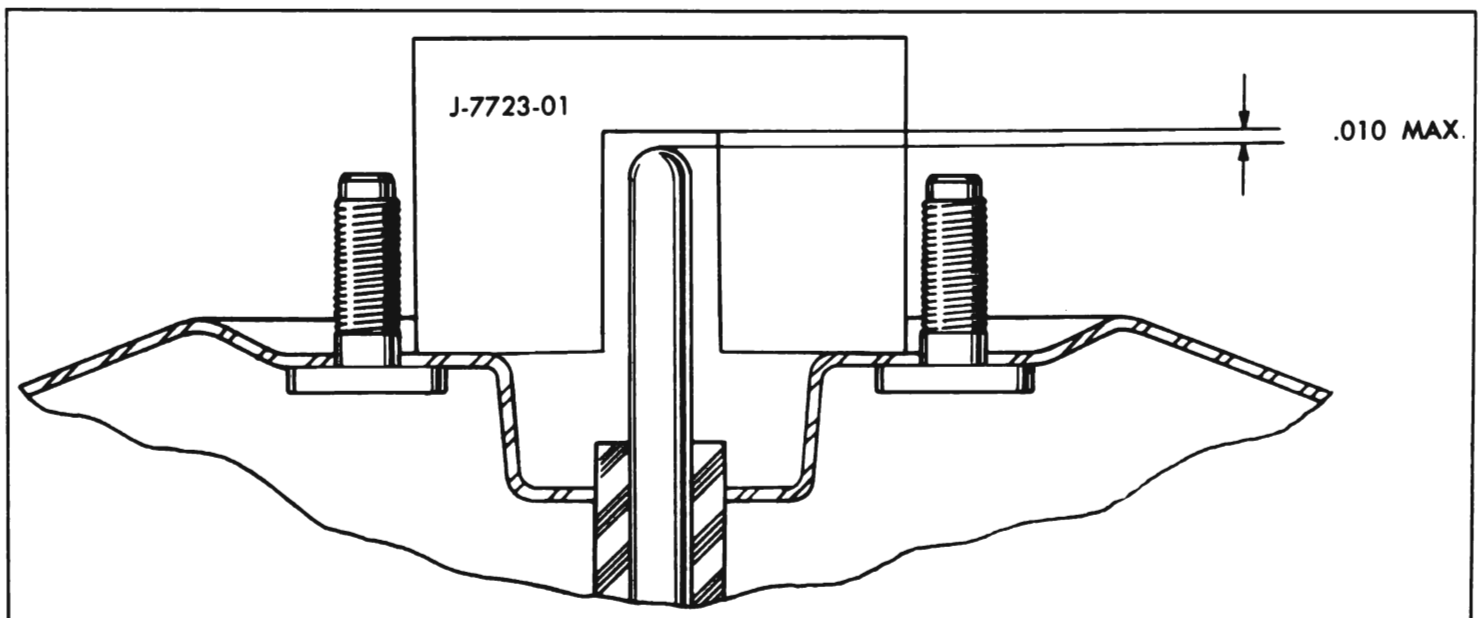

Figure 9-33—Gauging Master Cylinder Push Rod
2. Place Gauge J-7723-01 over the piston rod so that it fits between the two studs on the front housing. It should be parallel to the studs and resting on the surface of the housing. The cutout portion of the gauge should never be lower than the end of the piston rod, and the gap between the cutout in the gauge and the end of the piston rod should never be more than .010 inch. See Figure 9-33.